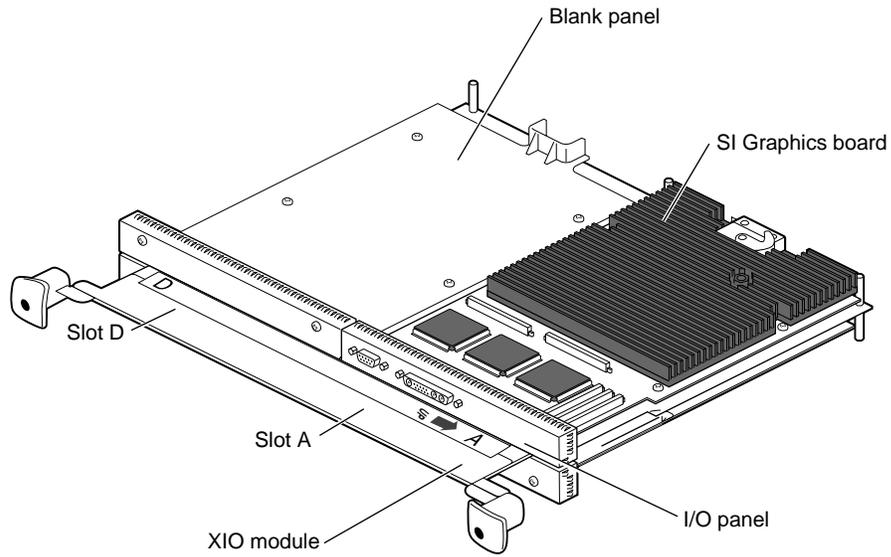

Figure 1-9 Placing the XIO Module on Its Side
The handle area protrudes when the XIO module is out of the chassis. When the handle protrudes, the identification slots for the XIO boards, D and A are visible; slots B and C are on the reverse side. See Figure 1-9.
6. Place a cap on the XIO graphics board compression connector. Spare caps are shipped with the OCTANE workstation. See Figure 1-9.